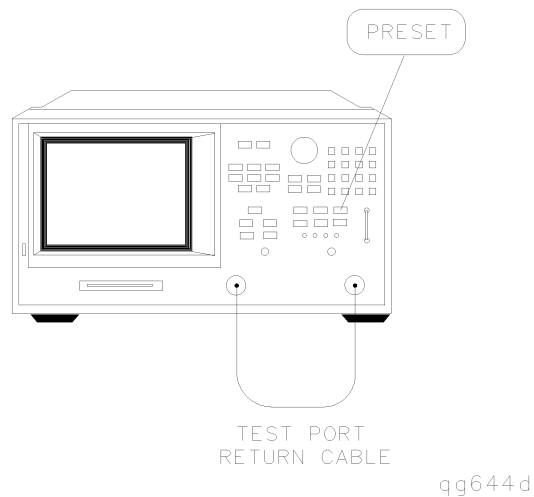

Figure 1-14. Transmission Load Match Connections
- 11** Connect the equipment as shown in Figure 1-14 and press PRESET.